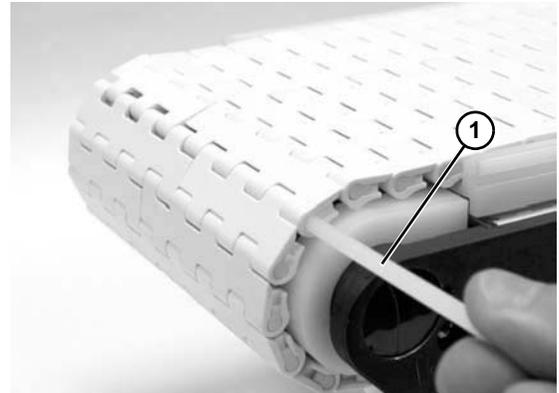

Figure 45
4. Splice the belt together by pushing the plastic rod (Figure 45, item 1) through the side hole.